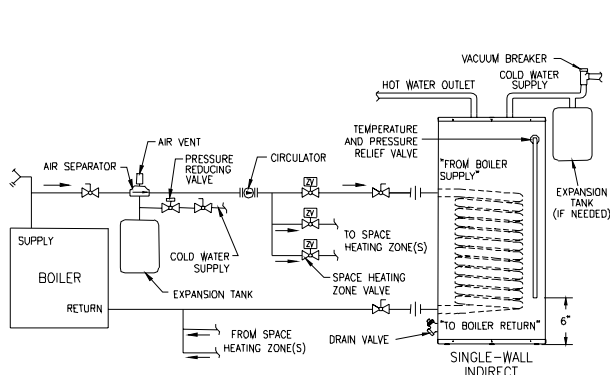

Figure 1 - Water Boiler Piping with Zone Valves
- For a space heating system that utilizes ZONE VALVES, refer to Figure 1. The Single-wall Indirect connection labeled “FROM BOILER SUPPLY” should be piped to the boiler supply piping. Mount the circulator making sure the flow arrow points toward the water heater. The use of Shut-off valves and unions are recommended for future service convenience. The use of an air separator and vent is recommended to eliminate air in the system. Pipe and fittings between the boiler and Single-wall Indirect must be 3/4" diameter or larger.